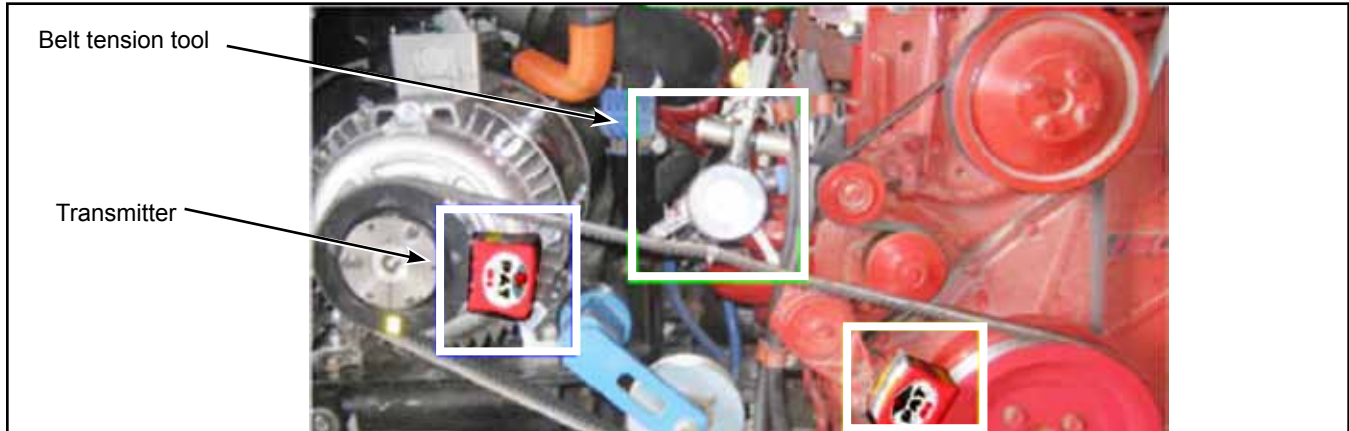

Figure 5 - Transmitters and Belt Tension Tool Installed
- 1.9. Place belt hog, or similar laser-based transmitters in the outside grooves of the engine and compressor pulley to obtain precise alignment. Keep the device logos facing toward the rear of the vehicle. See Figure 5.